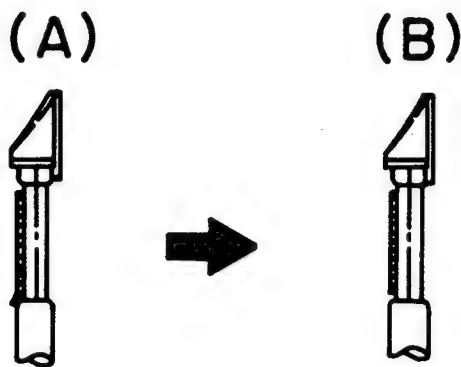

Fig. 3 Tape guide check
2. Adjust the A/C tilt adjusting screw until tape wrinkle is caused at the lower flange of tape guide as shown in Fig. 3 (A).
3. Turn the A/C tilt adjusting screw counter clockwise until the tape travels along the lower flange as shown in Fig. 3 (B).